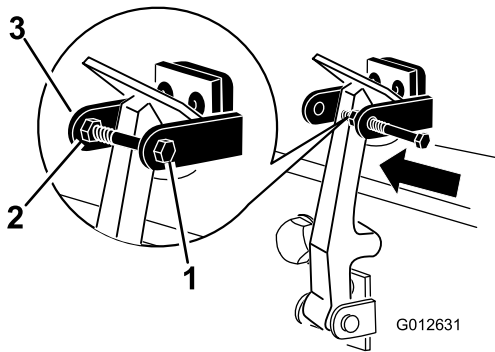

Figure 6
7. Screw the bolt into the other arm of the hood-lock bracket to lock the latch in position (Figure 6). Tighten the bolt securely but do not tighten the nut.